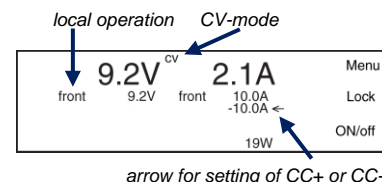

fig 4 - 3 - 19 W output power.
- By default, a unit is in local operation, see fig. 4 - 3.